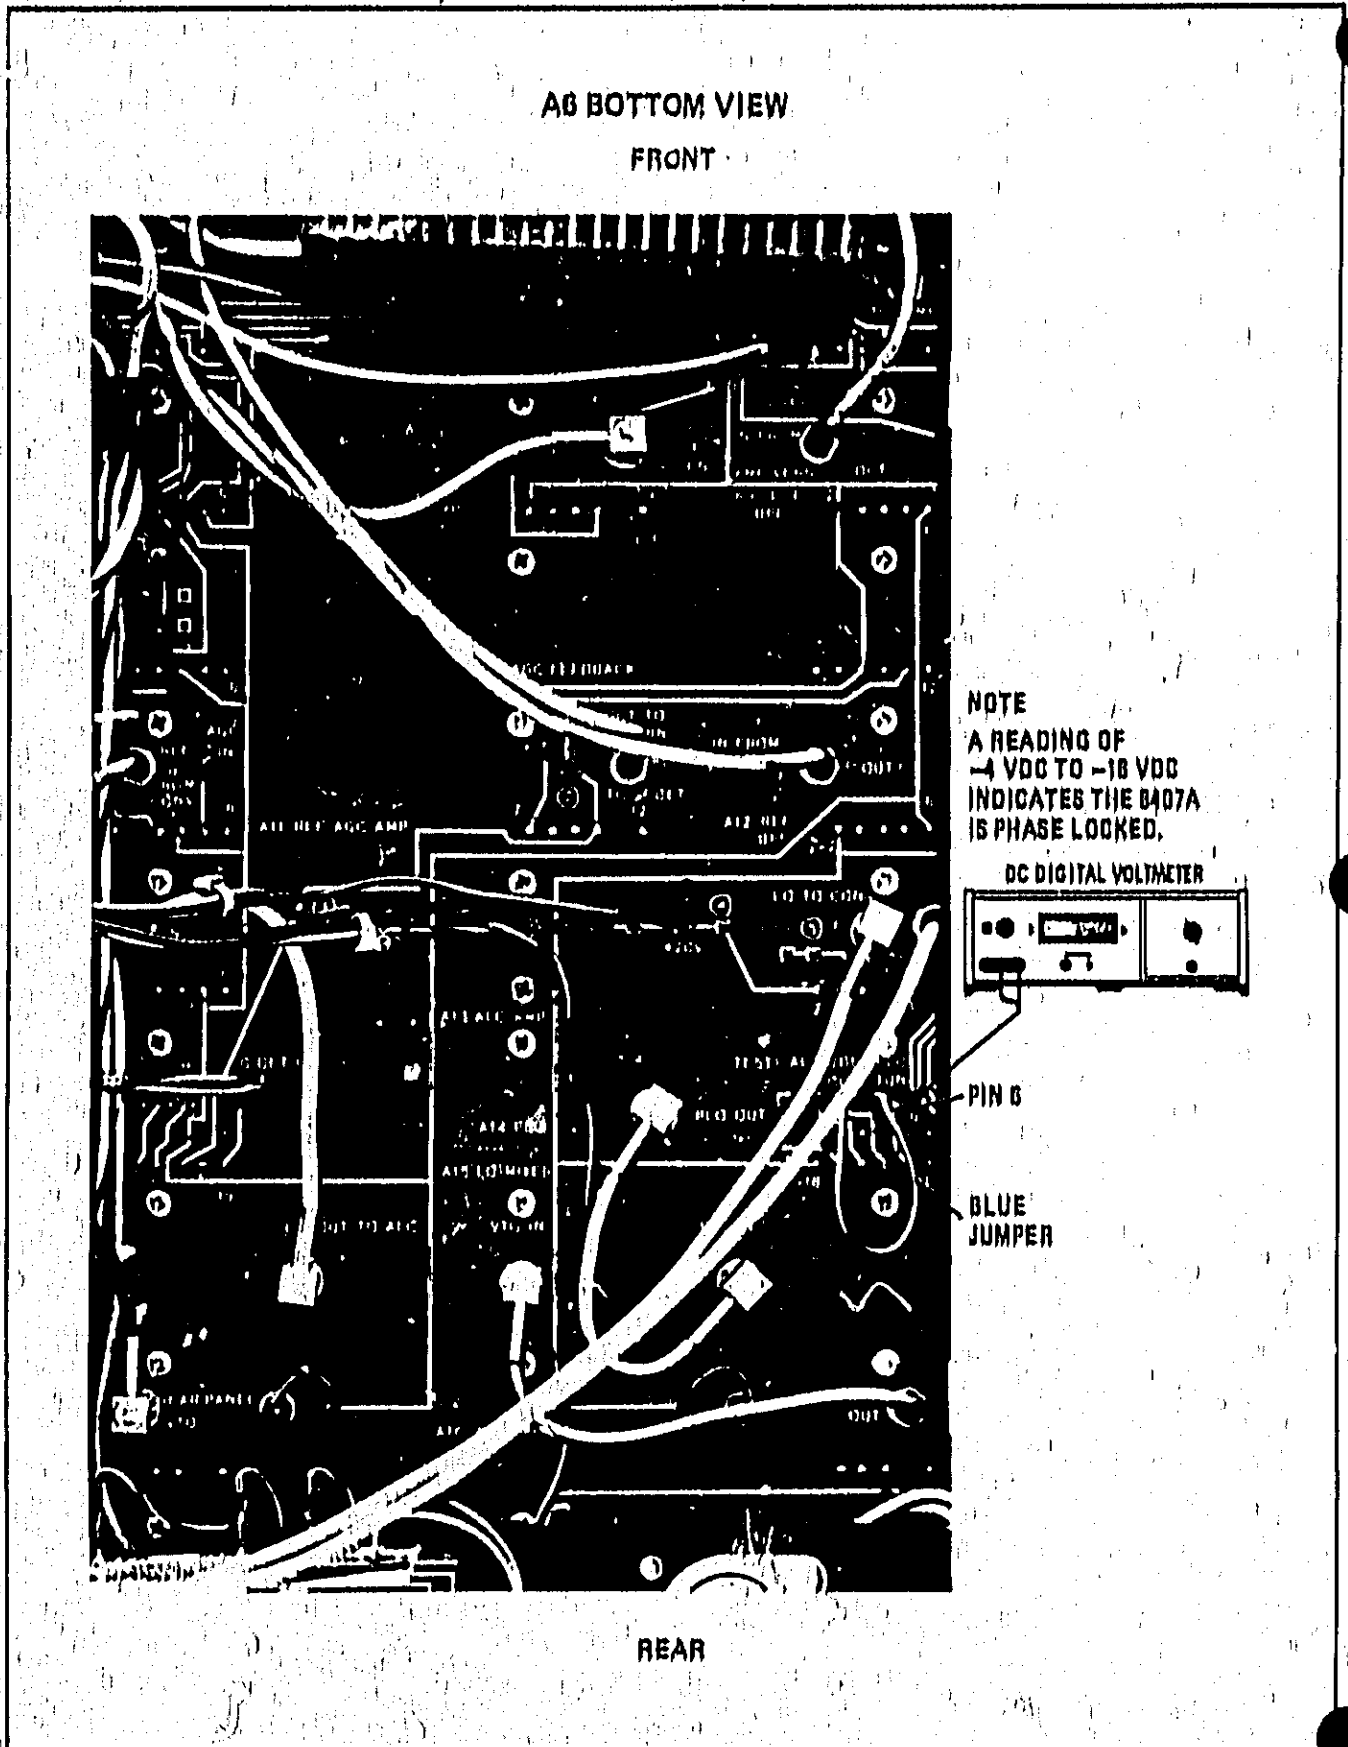

Figure 7-2G, Test for PHASE LOCK
c. To determine if the 8407A is phase locked, perform the following procedure: Connect the B channel of the scope to the IF Reference (IF REF) output on the rear panel of the 8407A as shown in Figure 3-2. The Reference IF signal level should be 1.3 volts ± 0.2 volts peak-to-peak, sine wave. The Reference Channel Level Adjust (REF CH LEVEL ADJ) meter should be at the top of the "OPERATE" range. Connect the digital voltmeter to pin 6 (right next to the blue jumper on the bottom of the AG Master Board, marked PLO TUN), see Figure 7-2G. The dc level should be between -4 and -18 volts dc. If all the above conditions are met, the 8407A is phase locked.
- b. Connect the digital voltmeter to Pin 6 (right next to the blue jumper-wire on the bottom of the A6 master board, marked PLO TUN) (see Figure 7-2G). Make sure there is a dc search voltage searching from -4 to -18 volts dc.